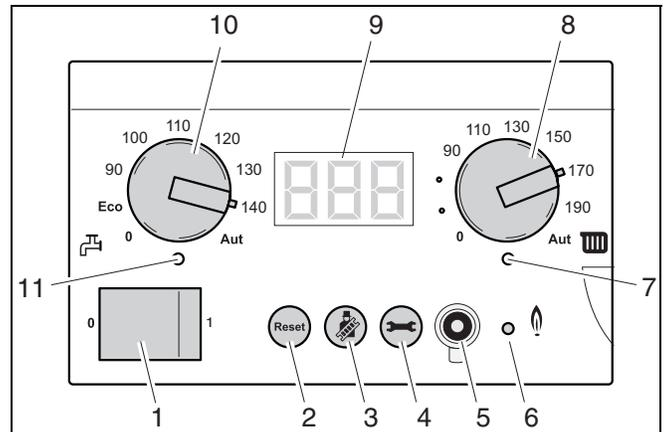

Fig. 46 BC10 basic controller
- Turn the Space heating water temperature knob (fig. 46, pos. 8) and DHW temperature knob (fig. 46, pos. 10) counterclockwise to the "0" position.